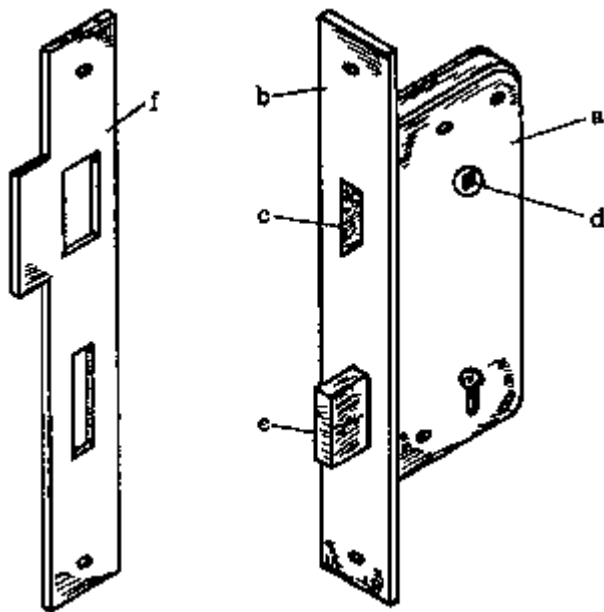

Fig. 1
Locks are normally fixed at a height of 105 cm, measured from the floor to the centre of the handle (Fig. 1).
- MORTICE LOCKS: Mortice locks (Fig. 1) consist of a stock (a), faceplate (b) and the latch bolt (c) moved by the handle. The handle fits into the bush (d) and there is a lock bolt (e) moved by the key. The two bolts fit into holes in the striking plate (f) which is attached by screws to the door post.